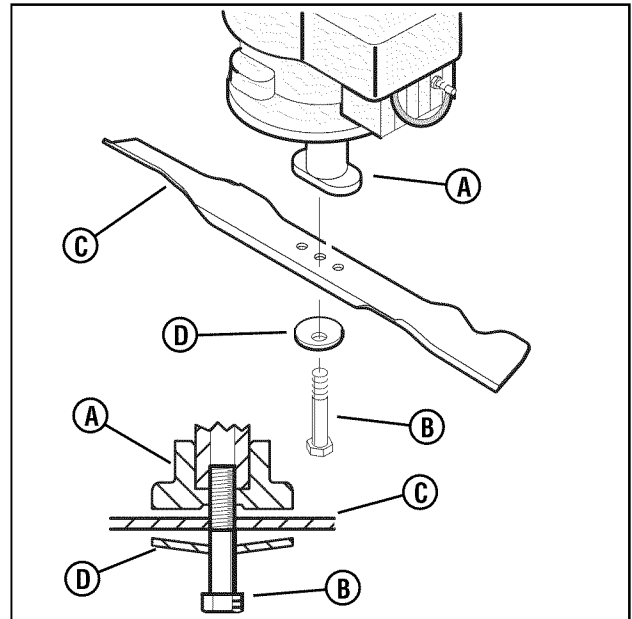

Figure 22: Removing the blade
Frequently check the blade for wear or damage such as cracks. Frequently check the bolt that holds the blade. Keep the bolt tight. If the blade hits an object, stop the engine. Disconnect the wire to the spark plug. Check the blade adapter (A, Figure 22) for damage. Check for a bent or damaged blade, a badly worn blade, or other damage. Before you operate the unit, damaged parts must be replaced with factory replacement parts. For safety, replace the blade every two years. Keep a sharp edge on the blade. A blade that is not sharp will cause the ends of the grass to become brown. Remove the blade as follows.
4. Remove the bolt (B, Figure 22) that holds the blade with a 9/16" (14mm) wrench.
5. Check the blade (C) according to the "Blade Service" instructions. Replace a badly worn or damaged blade with a factory replacement blade.
7. Fasten the blade with the original washer (D) and bolt.